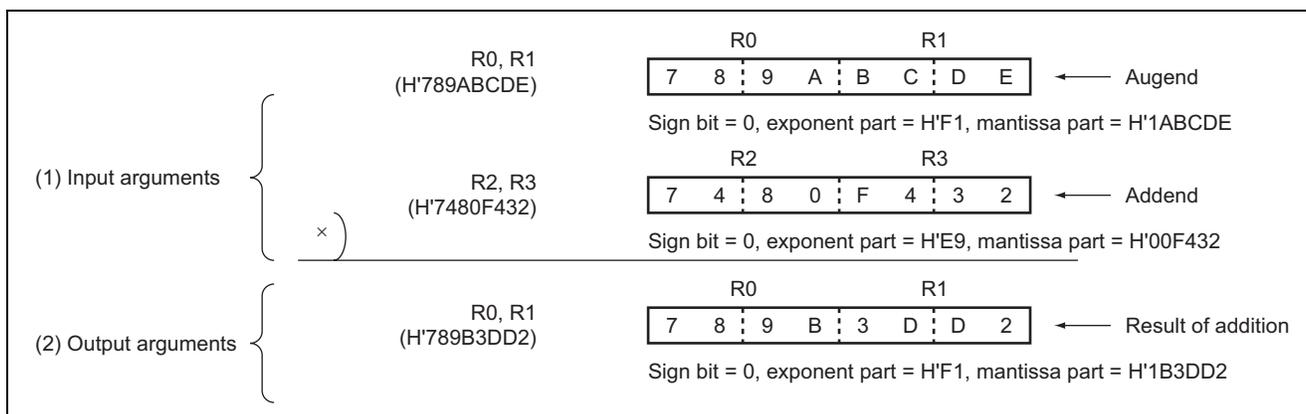

Figure 1 Example of Software FADD Execution
The clock cycle count (268) in the specifications is for the example shown in figure 1.